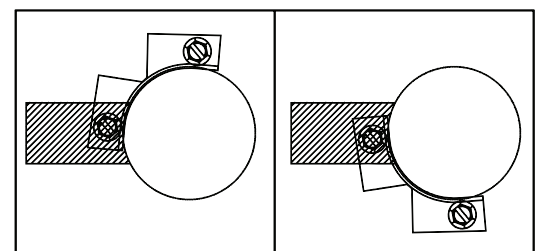

Figure 4
6. Optional Light Shield: The light shield may be mounted at virtually any angle. However, when deciding on a suitable location, the mounting screw head can not be in the shaded area. (See Figure 4 to view areas to avoid.)